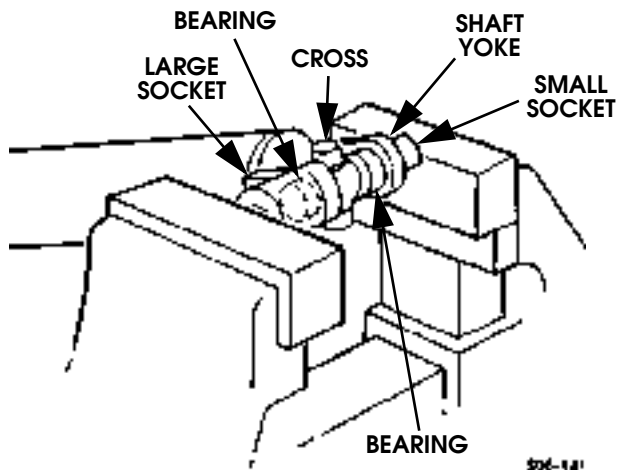

Figure 9-111: U-Joint Cross and Bearing Installation
2. Remove grease fitting from cross (Figure 9-111).
5. Position propeller shaft in vise with 1-1/8 socket between vise jaw and bearing being removed. Be sure open end of socket is facing bearing cup (Figure 9-111).